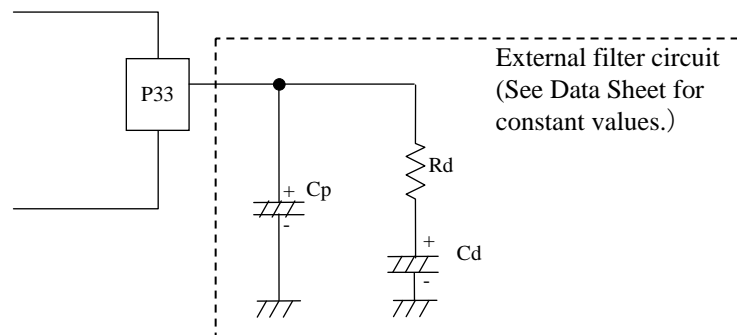

Figure 3.20.3 Internal PLL External Filter Circuit for the Audio Interface
- <2> Connect an external filter circuit to P33 as shown in Figure 3.20.3.